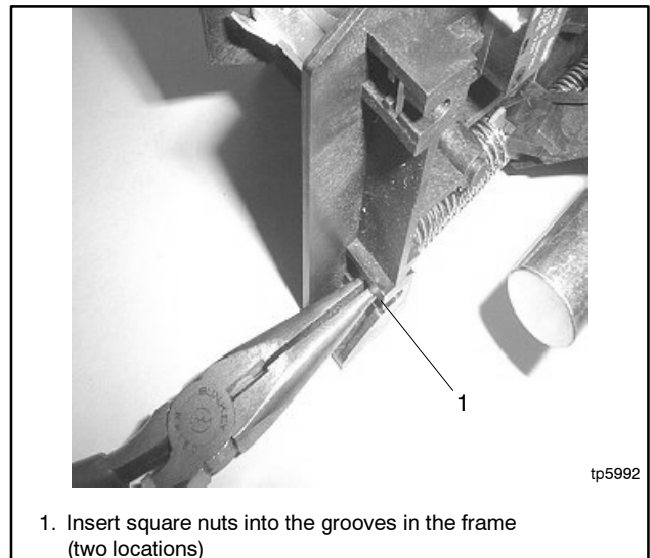

Figure 6-6 Reinstalling the Coil Assembly Nuts
1. Insert the two square nuts into the grooves on the frame. See Figure 6-6.